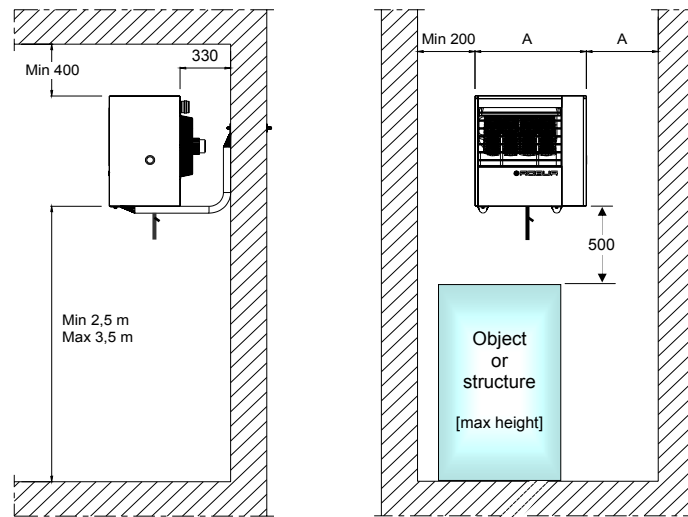

Figure 14 – Clearances to be respected
- The minimum distance from the wall behind the unit must be enough for air circulation. The minimum distance from the lateral walls is given by Figure 14 at page 35.
- The recommended height from the floor to the heater base is 2.5 to 3.5 m. It is not recommended to install the appliance under the 2.5 m height (see Figure 14 at page 35).